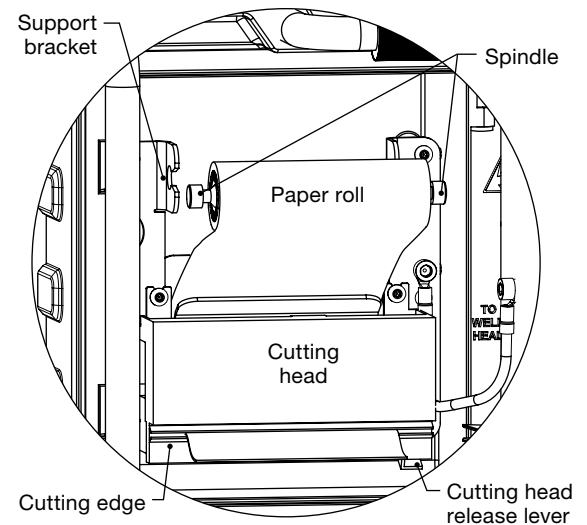

Fig. 51—Removing the Used Paper Roll
3. Press the ends of the **spindle** and lift it out of the **support bracket** (Fig. 51). Discard the used **paper roll**.